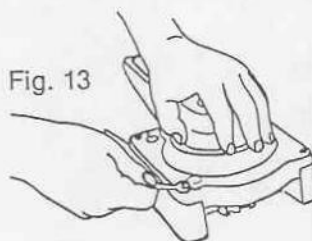

Fig. 13
1. Remove the container (1).
2. Remove the base plate (2).
3. Take off the trap chamber cover (3).
4. Unscrew the 4 screws (4) securing the upper housing (5) while the housing is being held down (the return spring (8) pushes upwards) (fig. 13).